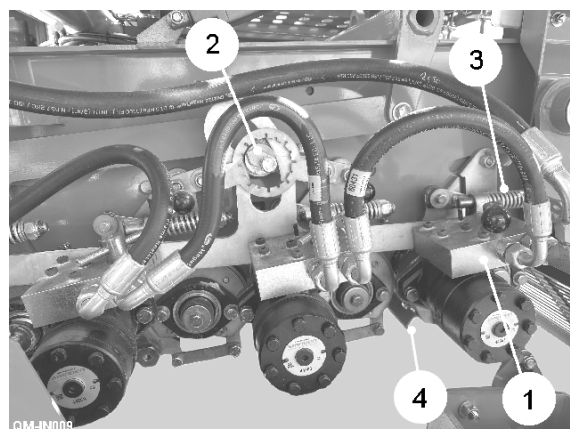

Fig 16
Each section of the Omega separator consists of a scroll roller followed by a clod roller all driven by their own hydraulic motor. Manual reversing valves (item 1, fig 16) are fitted to the clod roller motors so that the rotation direction can be set independently. The clod rollers can be reversed momentarily from the touch-screen to facilitate stones and trash seen by the operator to be ejected before a blockage occurs. Speed of the unit can be adjusted from the touch-screen.
For effective haulm removal, the clod rollers will normally be adjusted to run approximately 1 to 2mm away from the tip of the scrolls. The gap is set by rotating the cam (item 2, fig 16) on each side of the unit. Clod roller spring tension is adjusted on the spring rod nuts (item 3, fig 16). All adjustments must be made evenly on both sides.
Each clod roller is fitted with a scraper (item 4, fig 16) which needs to be closely adjusted to remove loose soil from the rollers.